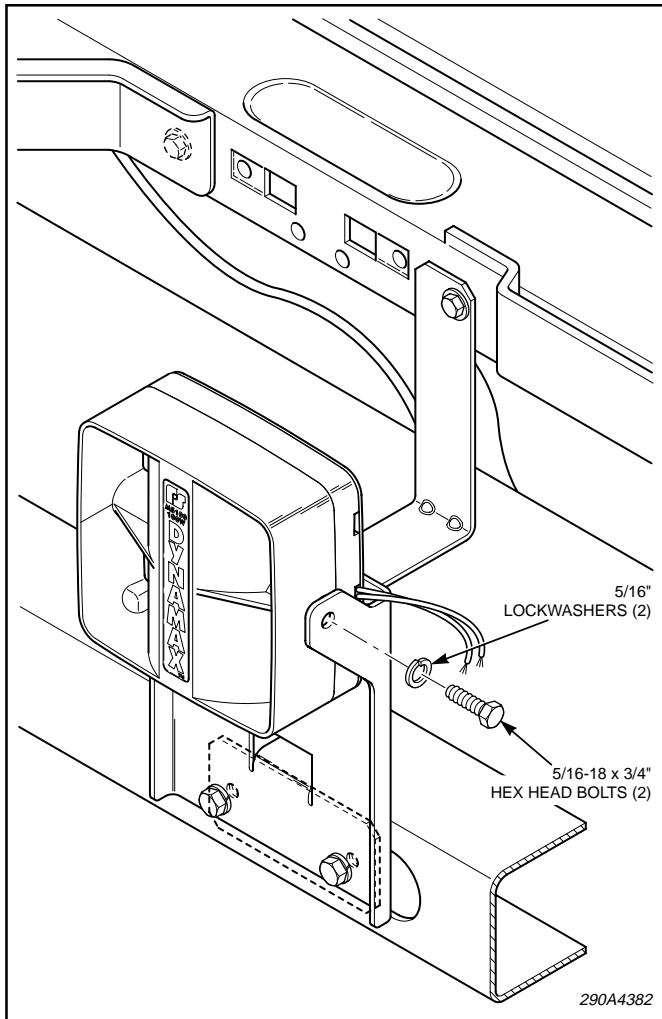

Figure 3.
4. See figure 3. Using two 5/16-18 bolts and lock washers, install the speaker assembly in the completed bracket assembly. Align speaker assembly so the front face is vertical in the vehicle.